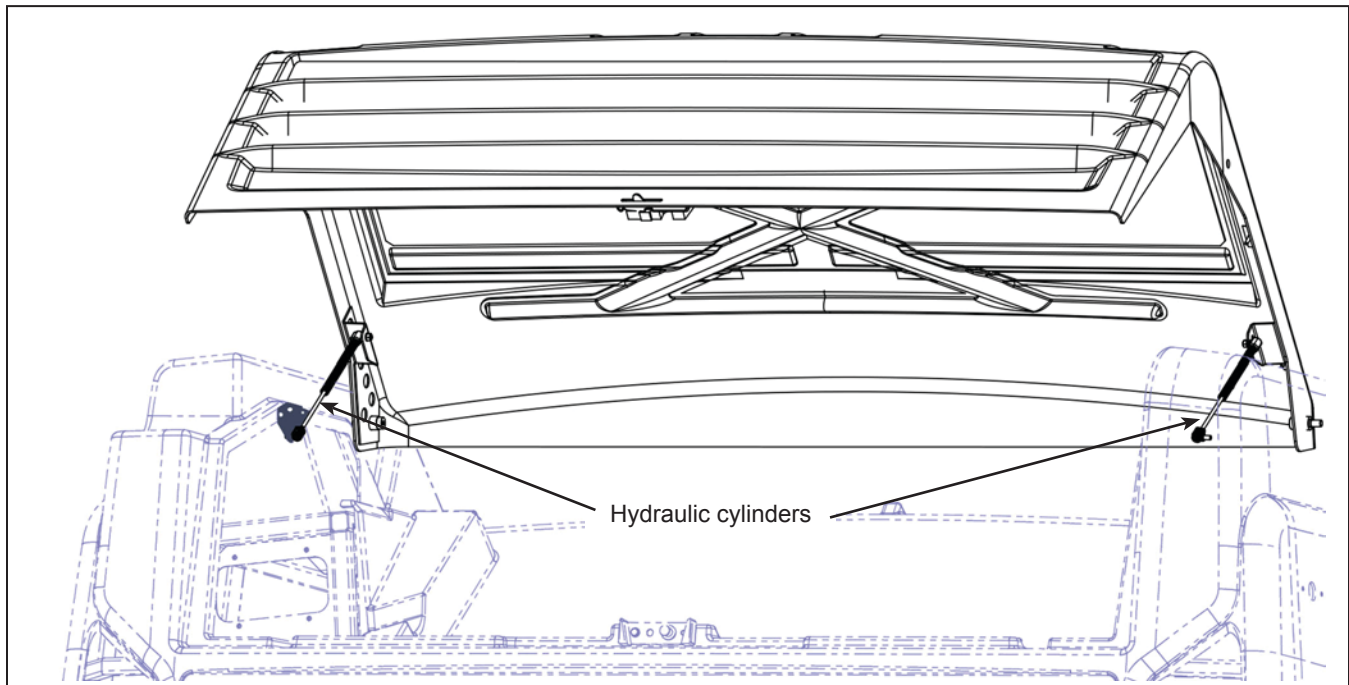

Figure 1 - Typical Anchorage for the Radiator Access Door
1.1. Remove the radiator access door. Retain the hardware. See Figure 1.